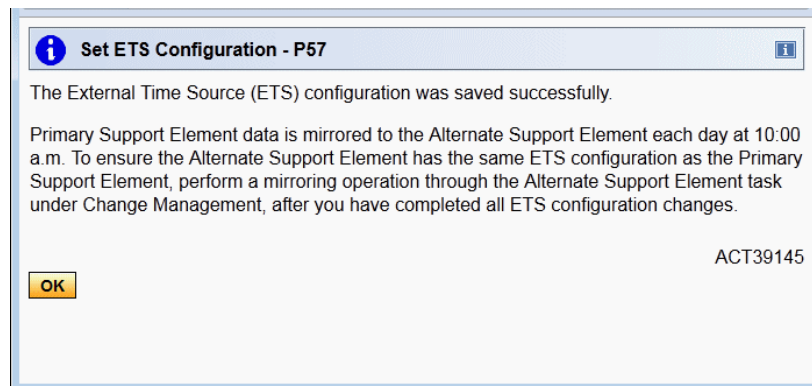

Figure 1-56 Message ACT30145 - ETS configuration saved successfully
23. Clicking **Yes** confirms the removal of the last NTP server, and the NTP configuration is saved on the Support Element. The information message ACT39145 displays (Figure 1-56).